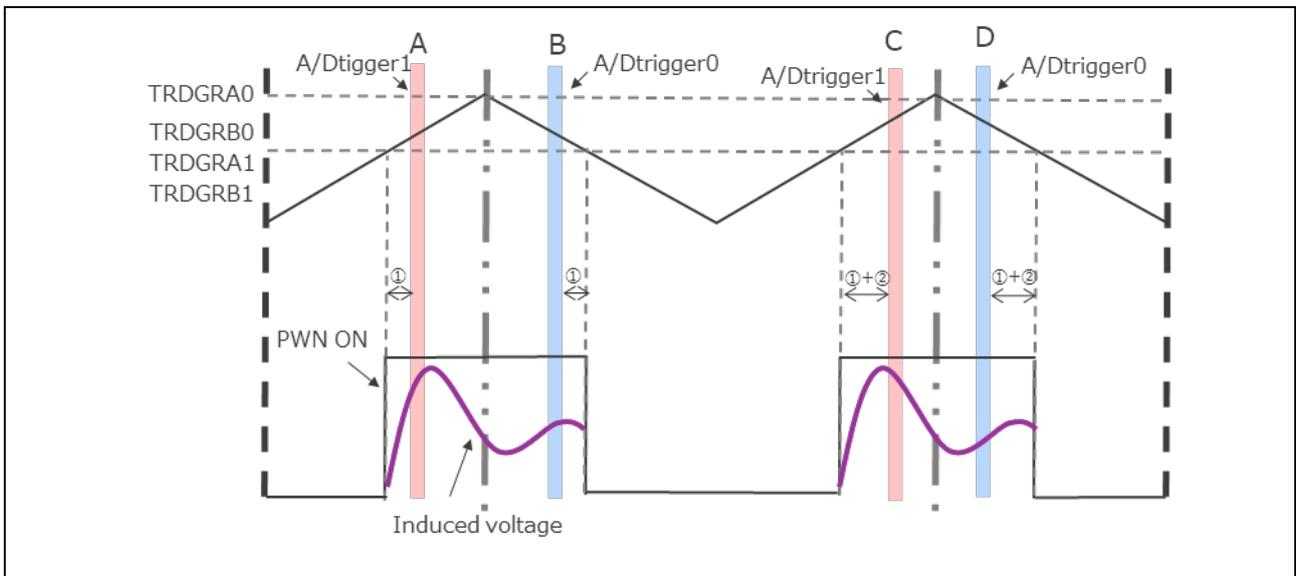
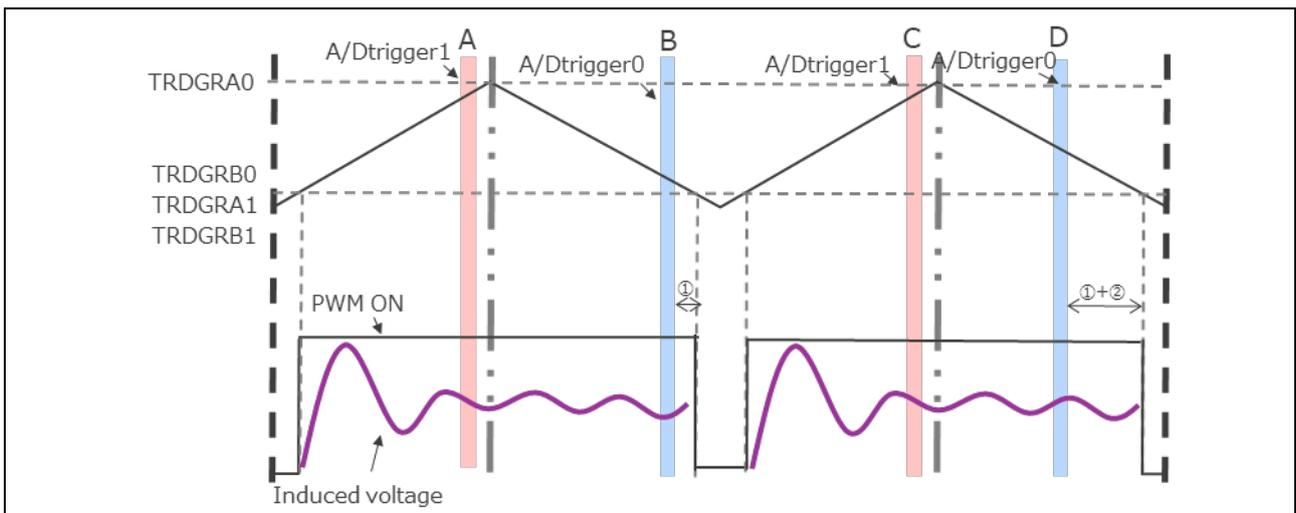

Figure 3-22 A/D conversion timing (Duty value is below threshold)
Figure 3-23 A/D conversion timing (Duty exceeds threshold value)
When the duty value is below the threshold, A/D conversion trigger is set as shown in Figure 3-22. The A/D conversion trigger timing (①) from the ON/OFF edge of the upper arm, and the interval (②) between the A/D conversion trigger in first and second carrier are tunable parameters.
When the duty value exceeds the threshold, A/D conversion trigger 1 is fixed at the trigger position for the minimum duty value, as shown in Figure 3-23.
The following Table 3-6 shows the parameters and variables corresponding to the duty value threshold, the A/D conversion trigger timing (①) from the ON/OFF edge of the upper arm, and the interval (②) between the A/D conversion trigger in first and second carrier as shown in Figure 3-22 and Figure 3-23.